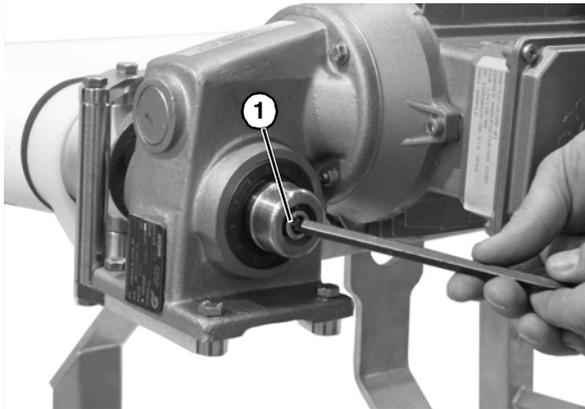

Figure 41
- Remove the plastic cap on the end of the motor and remove the socket head screw and the bore plug. (Figure 41, item 1).
- Slide the gearmotor assembly off of the drive spindle. (Figure 41).